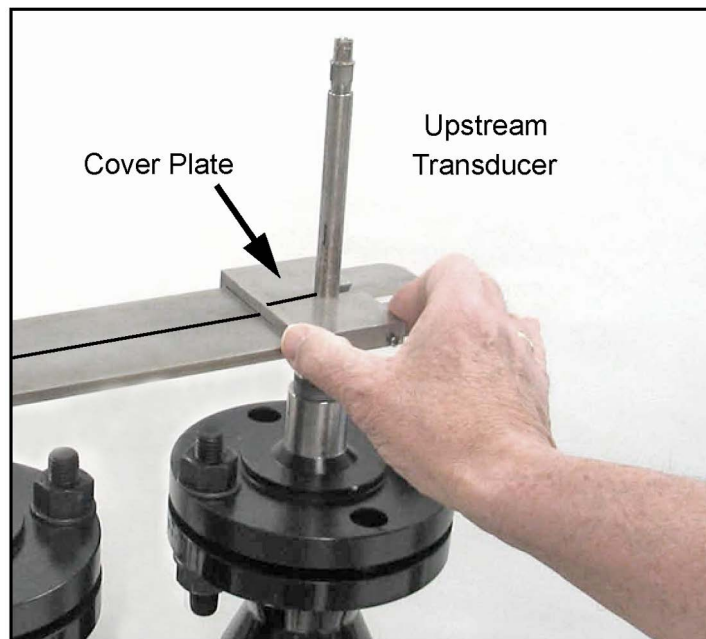

Figure 10: Installing the Cover Plate
3. Place the cover plate on top of the guide plate and slide it as far as possible until it is positioned around the upstream transducer, as shown in Figure 10 below. Then, tighten the screws to secure it.